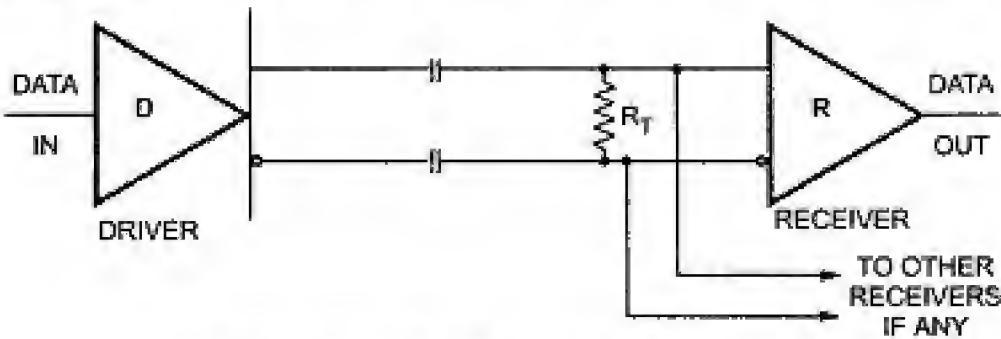

Fig. 14.10 RS-422-A interface circuit
A basic RS-422-A circuit has a data line driver, differential transmission line and loads, where a load may consists of one or more receivers (R) and the line termination resistor (R_T), as shown in Fig. 14.10.